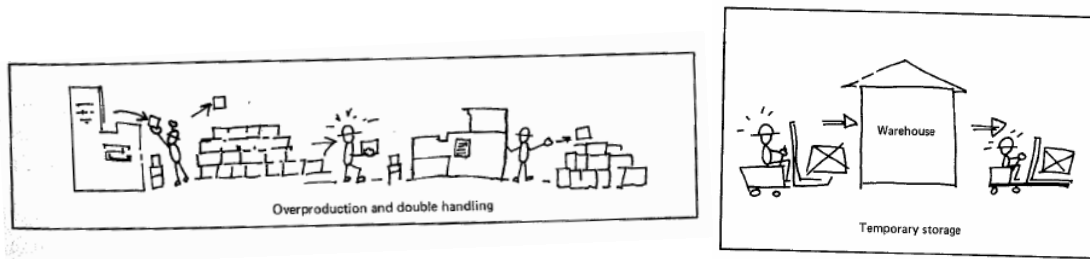

Figure 2. Cartoon of two wastes, from Suzuki.
Non-value added (NVA) activities, or activities that the customer will not pay for, or waste, are best understood by the Lean thinkers who lead the daily crusade against NVA activities. Lean thinkers have the mindset and the toolbox to eliminate NVA activities throughout the organization. The NVA activities were first grouped into seven wastes by Ohno² (see Table 1) and elegantly described in cartoon format by Suzaki³ (see Figure 2). The Lean thinkers have largely been relegated to NVA reduction on the manufacturing floor where Value Stream Mapping (VSM) is the tool of choice to define the activities, resources, and information flow required to deliver value to the customer.⁴ What’s different about the Value Stream Map is that a time is put to every activity in the value stream and each time is defined as value added (VA) or non-value added (NVA). It’s common for NVA time to make up more than 95% the time in the value stream. Since NVA time makes up most of the time in the value stream, huge time savings are realized even with modest percentage reductions in NVA time.